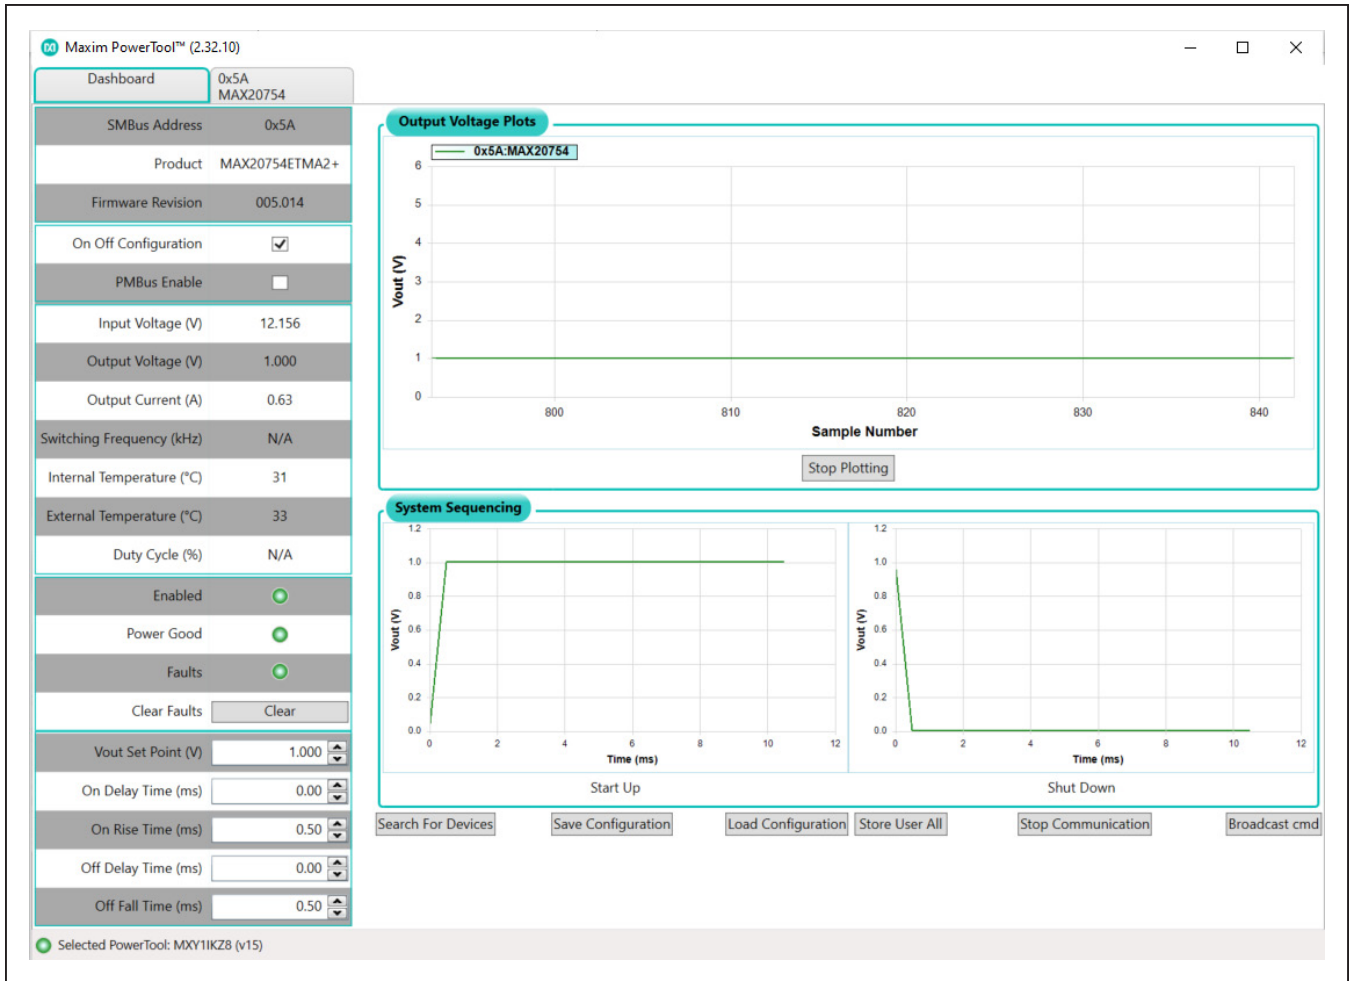

Figure 1. Maxim PowerTool Graphical User Interface Software Dashboard Window
- 10) Start the GUI software. The “Dashboard” window should appear as shown in Figure 1.